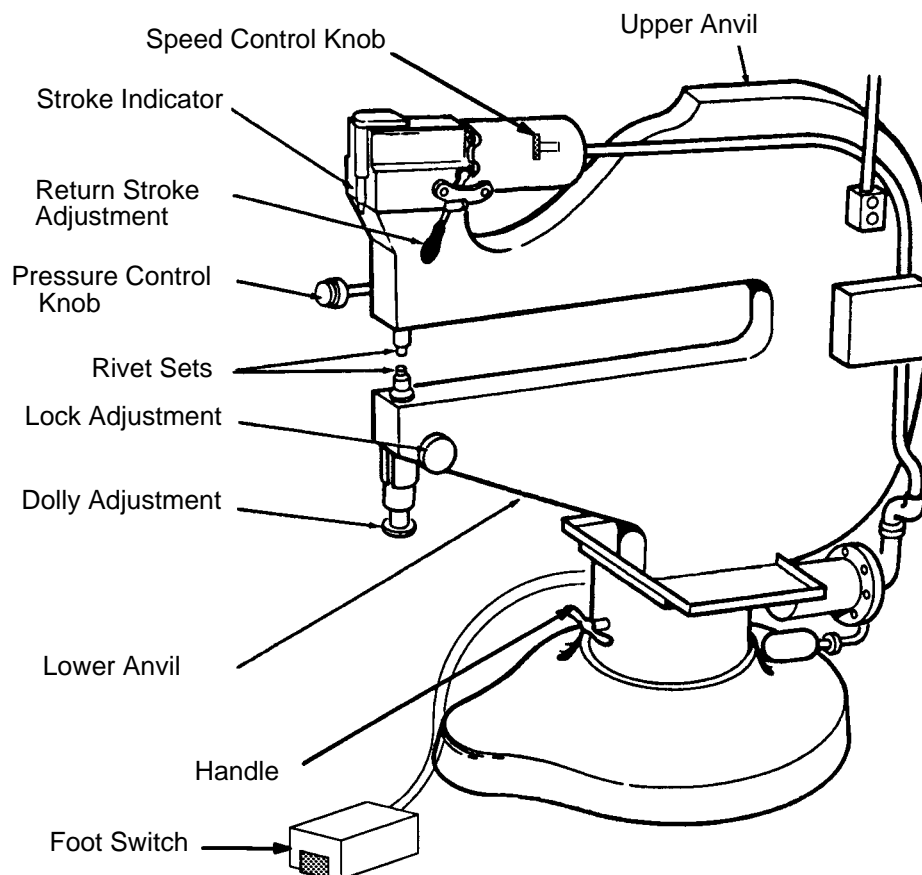

Figure 5 - CP450 Stationary Riveter
- Step 4. Select the required adapter from Table 8 and insert into lower anvil and hold firmly by tightening the lock adjustment (see Figure 5).
- Step 11. Adjust the pressure on the rivet sets to form the correct shop head by setting the pressure control knob as required (see Figure 5). Once the pressure is set for one fastener diameter, it is possible to run rivets with different grip lengths without changing the set-up.